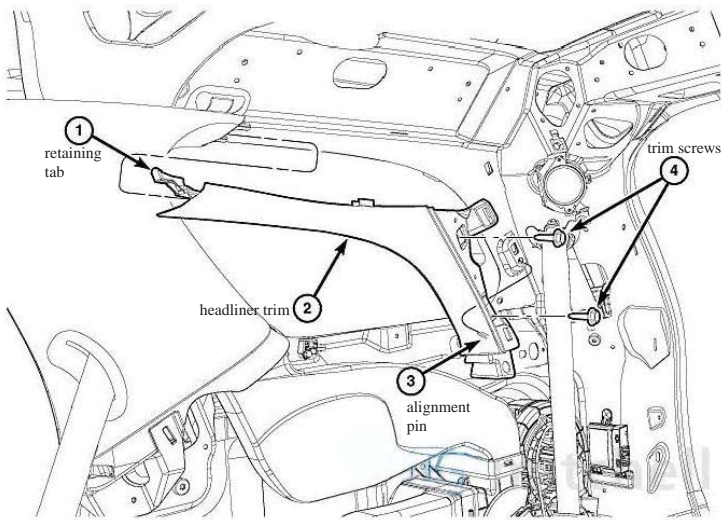

Figure 2
C. Remove the headliner trim (Fig 2).